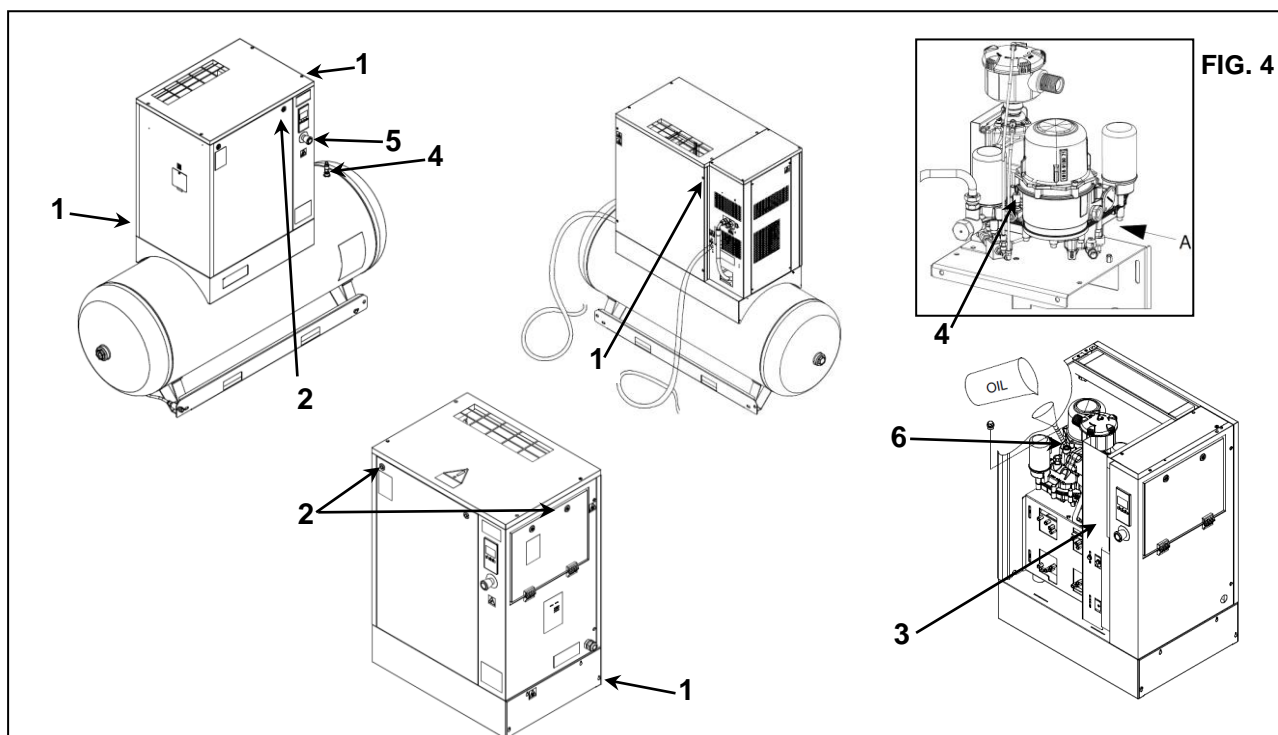

FIG. 4
7.1 SAFETY DEVICES FOR SCREW COMPRESSOR (Fig. 4)